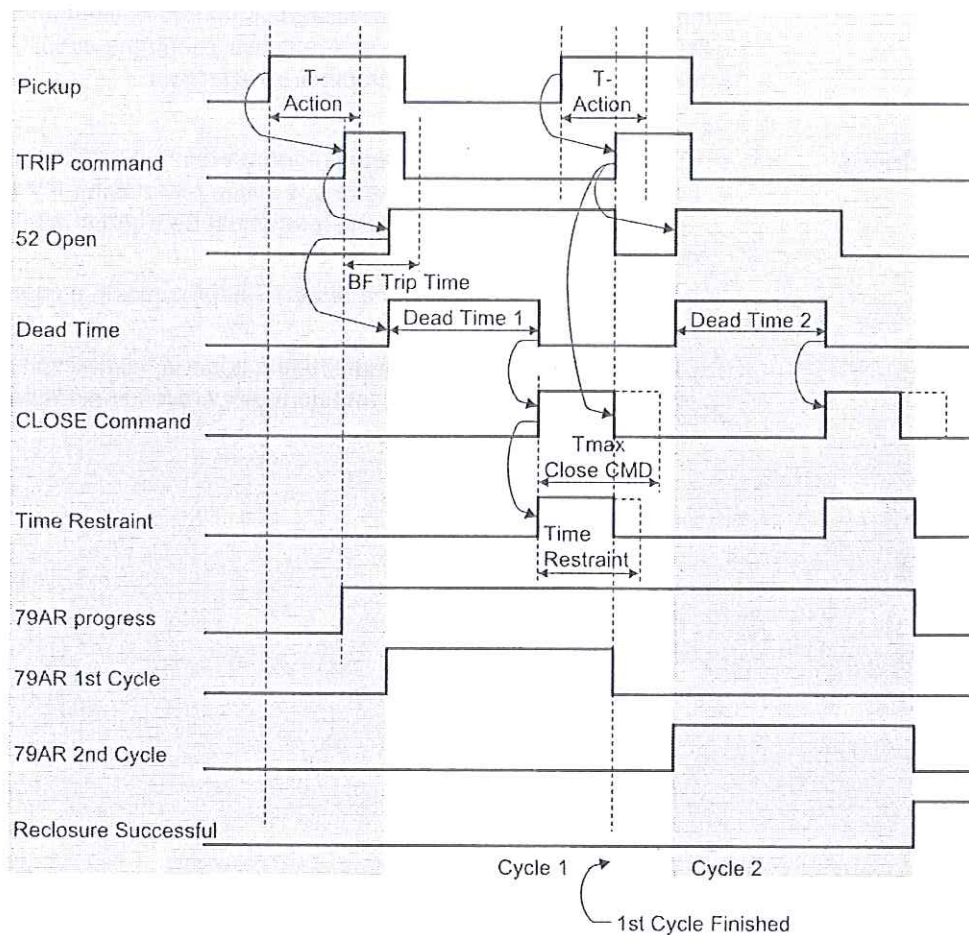

Figure 2-50 Timing diagram showing two reclosing shots, first cycle unsuccessful, second cycle successful
The 7SJ61 is equipped with three-pole, single-shot and multi-shot automatic reclosure (AR). Figure 2-50 shows an example of a timing diagram for a successful second reclosure.